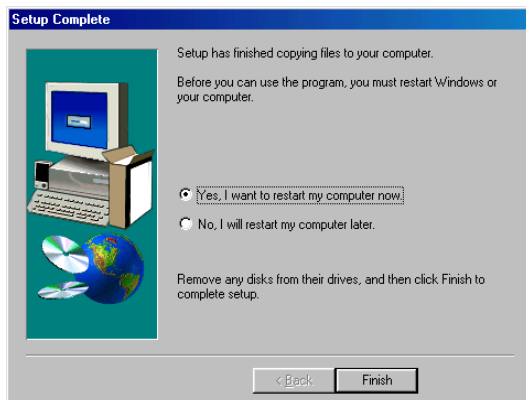

Figure 18: Completing the installation
- Only select the option 'Yes, I want... ..on the Desktop' (Figure 18).
14. Click on 'OK' to complete the installation. Figure 18 will appear.